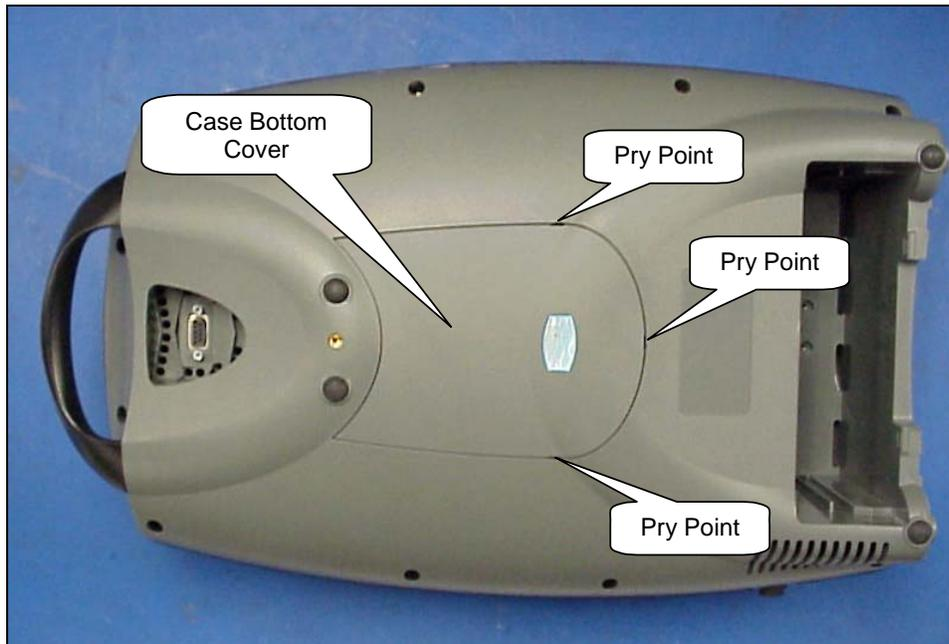

Figure 48: Case Bottom Cover Removal.
2. Flip unit over onto a padded ESD safe surface. Using a small flat tip screwdriver to pry open the cover at each pry point, remove the Case Bottom Cover as shown in Figure 48.
14. Install the Case Bottom Cover as shown in Figure 48.